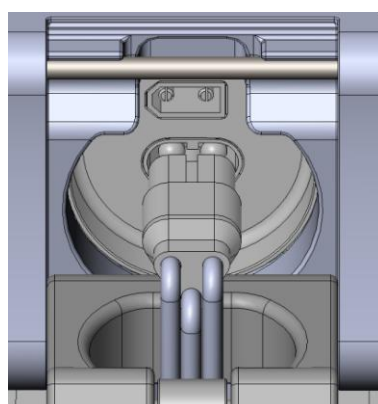

Figure 2
2) Connect the XT30 and MT60 connectors as Figure 2.